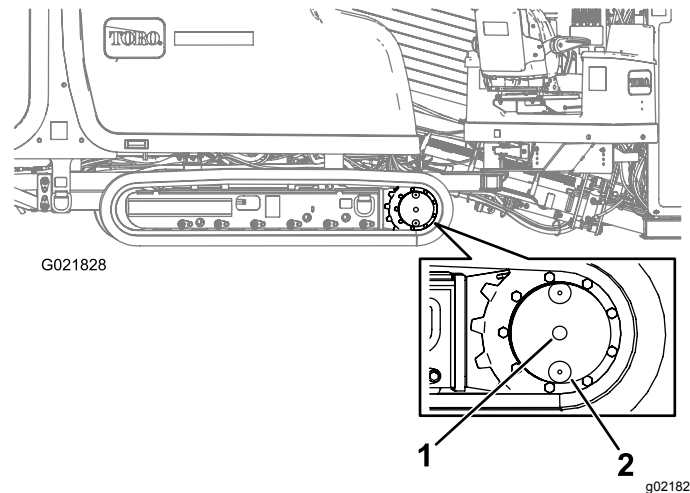

Figure 99
2. Clean the area around the oil-level plug with a cleaning solvent (Figure 99).
3. Rotate the planetary drive until the oil level and the oil-drain plugs are vertical to the ground (at the 6 o'clock position) as shown in Figure 99.
4. Remove the oil-level plug (Figure 99).
2. Clean the area around the oil-level plug (Figure 99).
3. Rotate the planetary drive until the oil-drain plug is directly below the oil-level plug (Figure 99).